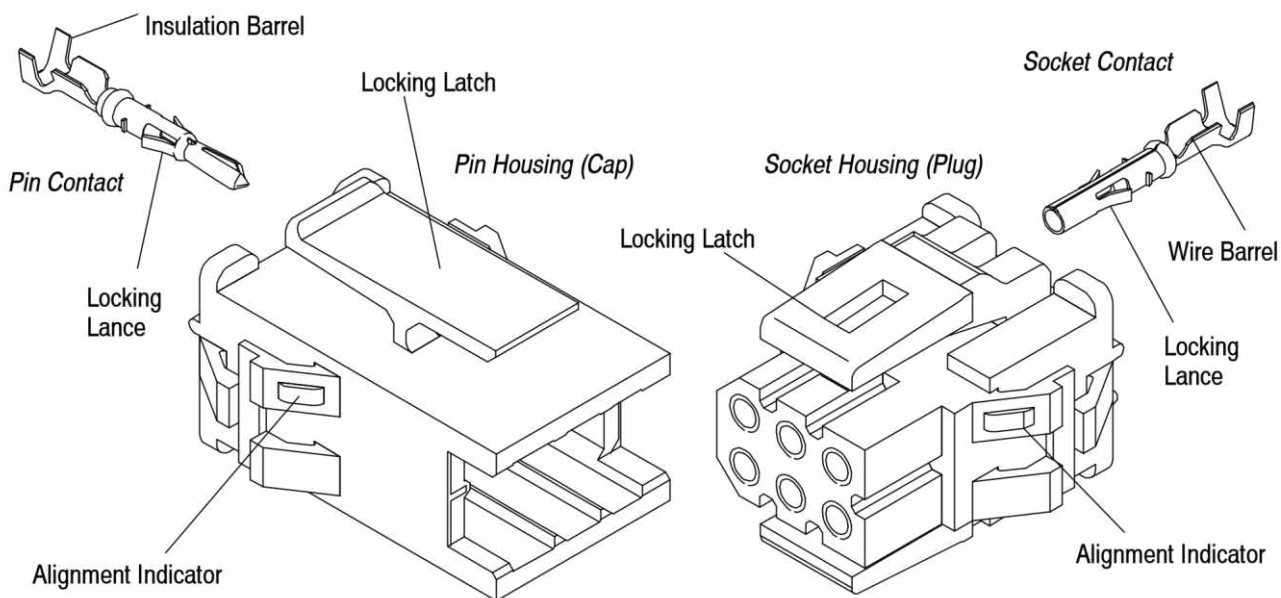

Figure 1
When corresponding with TE Connectivity (TE) Personnel, use the terminology provided on this specification to help facilitate your inquiry for information. Basic terms and features of components are provided in Figure 1.